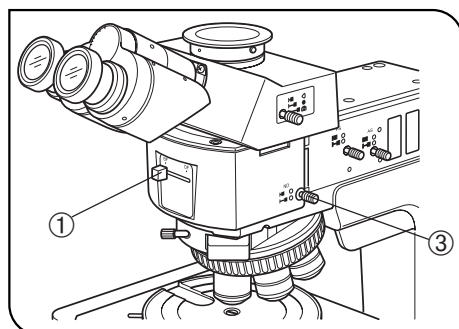

Fig. 23
### 1 Selecting the Observation Light Path (Figs. 23 to 25)
1. After selecting the BF light path, insert the Allen screwdriver into the hole ② on the left side of the reflected light illuminator and loosen the screw coupling the ND filter.
2. Pull the ND filter lever ③ (Fig. 23) to disengage the ND filter from the light path, pull out the lever.